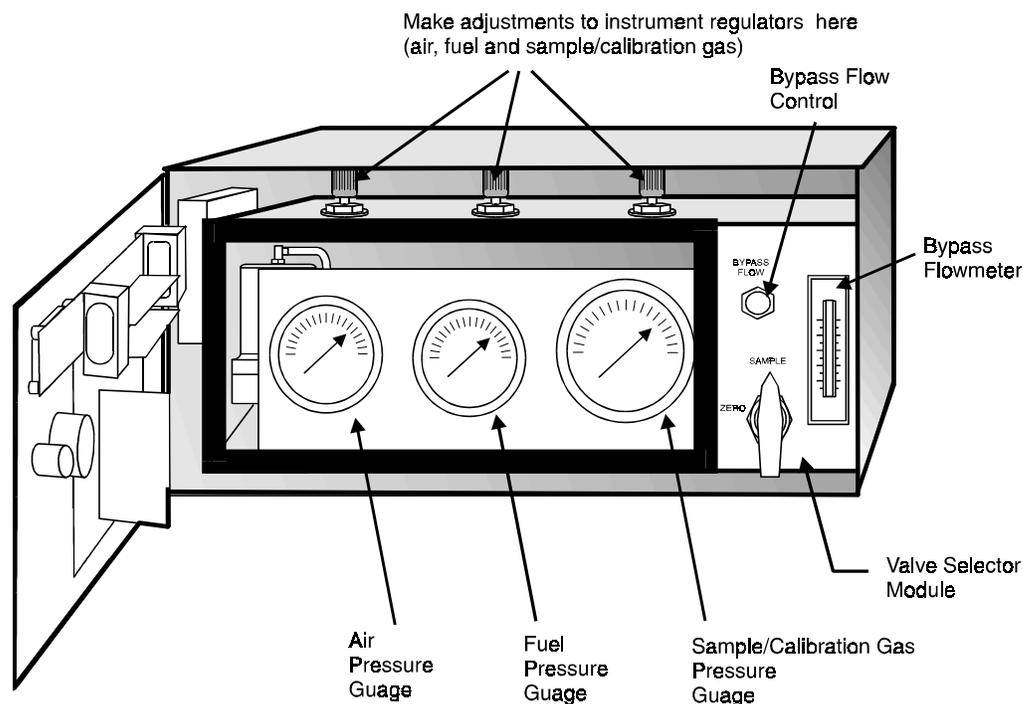

Figure 4-2: Setting the Air, Fuel and Sample Pressure
2. Adjust the instrument air regulator until the air pressure gauge reads the recommended air pressure. See Figure 4-2.
2. Set the zero gas tank regulator to **30 psig** (or a pressure which matches the sample pressure) and adjust the instrument sample regulator until its (sample) pressure gauge reads the recommended sample pressure (except that zero gas is flowing rather than sample). See Figure 4-2.
4. Set the instrument fuel regulator to the recommended pressure. See Figure 4-2.